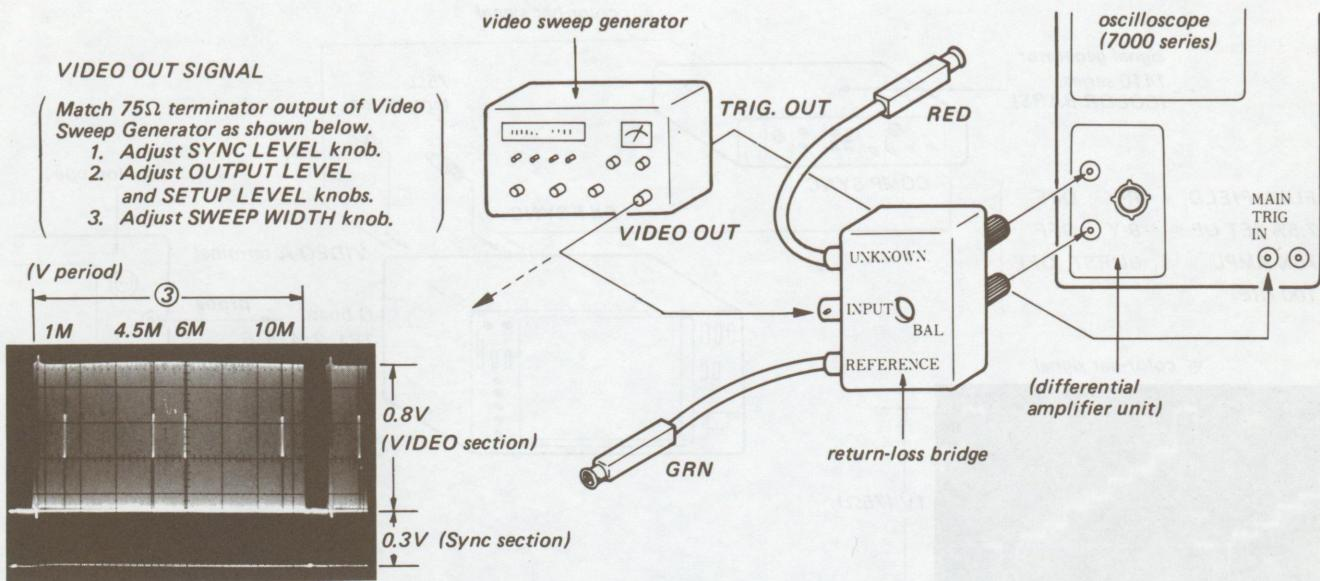

Fig. 5-26.
1. Complete the connections as shown in Fig. 5-26.